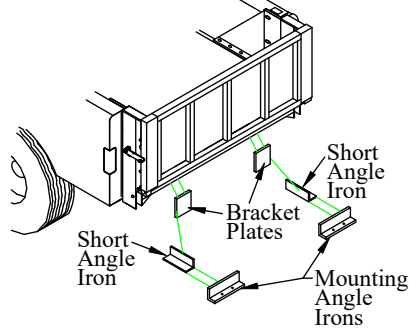

Figure 15: Lower bracket support.
- 2. Bolt** the bracket plates to the truck frame (Figure 15).